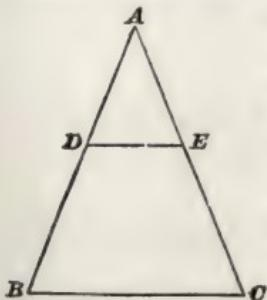

FIG. 27.
**57.** If a straight line be drawn through two sides of a triangle, parallel to the third side, a second triangle will be formed whose sides will be proportional to the corresponding sides of the first triangle. Thus, in the triangle  $A B C$ , Fig. 27, if the line  $D E$  be drawn parallel to the side  $B C$ , the triangle  $A D E$  will be formed and we shall have
- (1) Side  $A D$  : side  $D E$  = side  $A B$  : side  $B C$ ; and,
- (2) Side  $A E$  : side  $D E$  = side  $A C$  : side  $B C$ ; also,
- (3) Side  $A D$  : side  $A E$  = side  $A B$  : side  $A C$ .
**EXAMPLE.**—In Fig. 27, if  $A B = 24$ ,  $B C = 18$ , and  $D E = 8$ , what does  $A D$  equal?
**SOLUTION.**—Writing these values for the sides in (1),